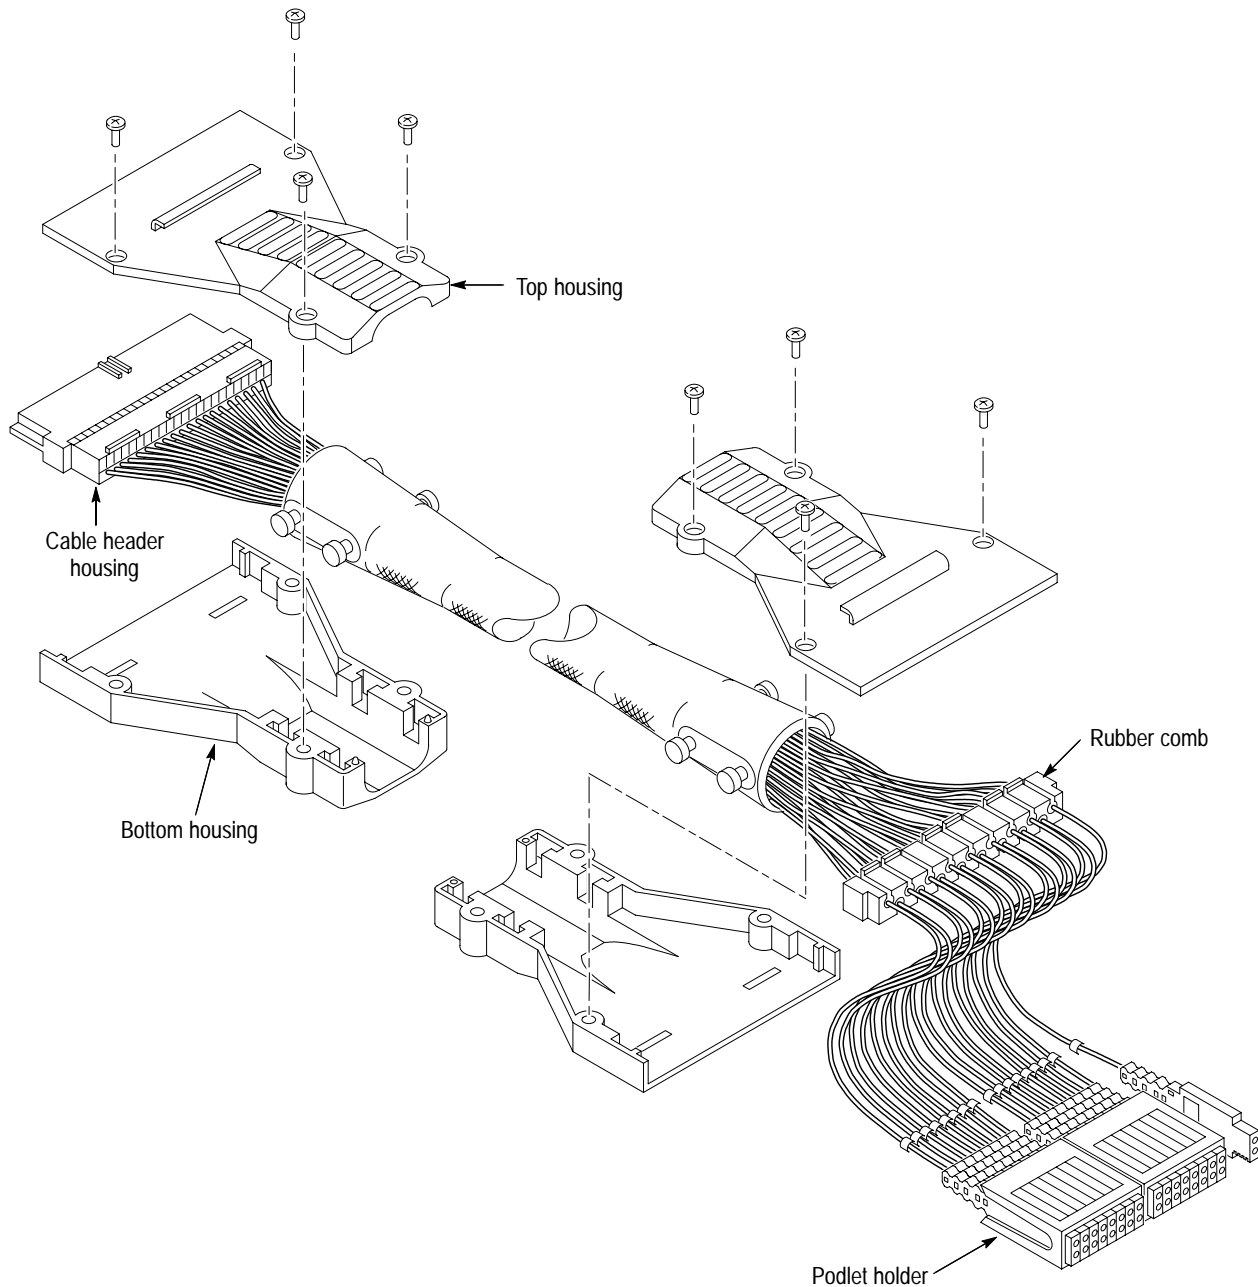

Figure 10: Disassembling the probe cable
3. Using the screwdriver with the #1 Phillips tip, remove the four screws on the probe housing on the module end of probe cable (see Figure 10).
- 21.** Reinstall the top and bottom probe housings on the module end of the probe cable in the following manner (refer to Figure 10 on page 27 if necessary):